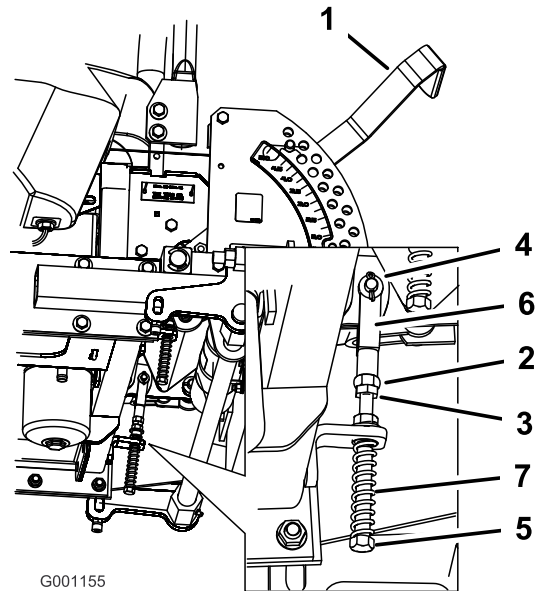

Figure 90
8. If adjustment is needed, loosen the nut and jam nut against the yoke (Figure 90).
9. Apply slight rearward pressure on the motion-control lever, turn the head of the adjustment bolt in the appropriate direction until the control lever is centered in the NEUTRAL-LOCK position (Figure 90).
10. Tighten the nut and jam nut (Figure 90).